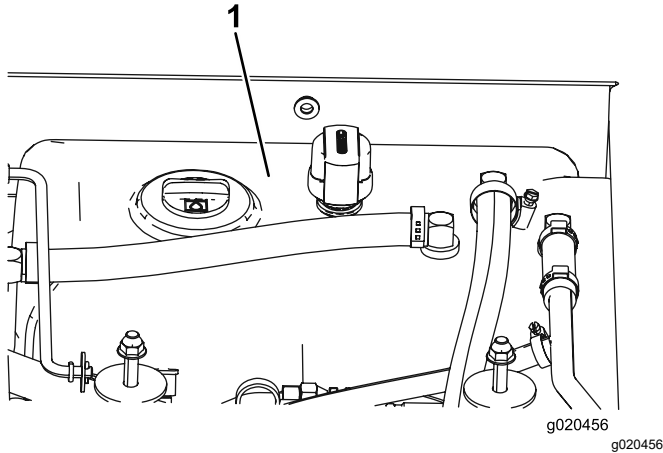

Figure 118
- Fill the reservoir (Figure 118) with hydraulic fluid; refer to Checking the Hydraulic Fluid \(page 80\).